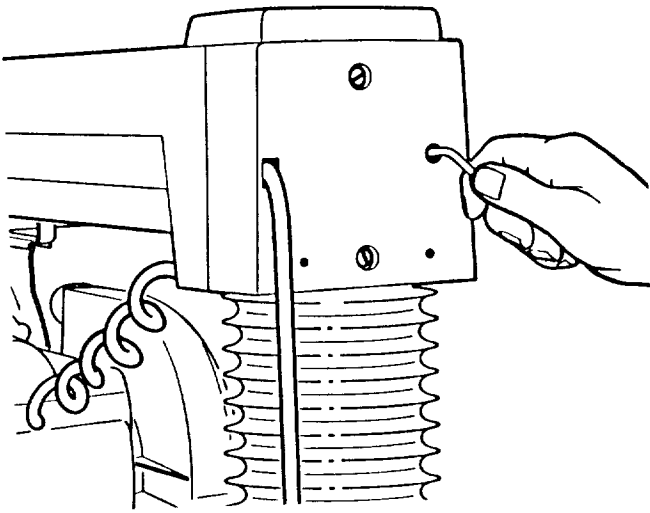

Fig. 138 - Location of Hex Socket Cap Screw
2. With a 3/16 inch hex "L" wrench find the 1/4-20 hex socket cap screw through the hole in the rear of the *arm cover*. To tighten turn the wrench clockwise approximately 1/4 turn. (Figure 138)